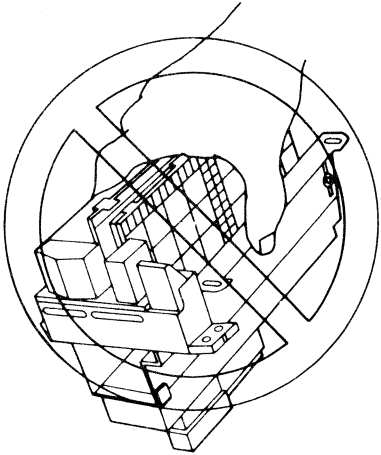

Figure 4
- Do not hold the R/W FRU assembly as shown in Figure 4.